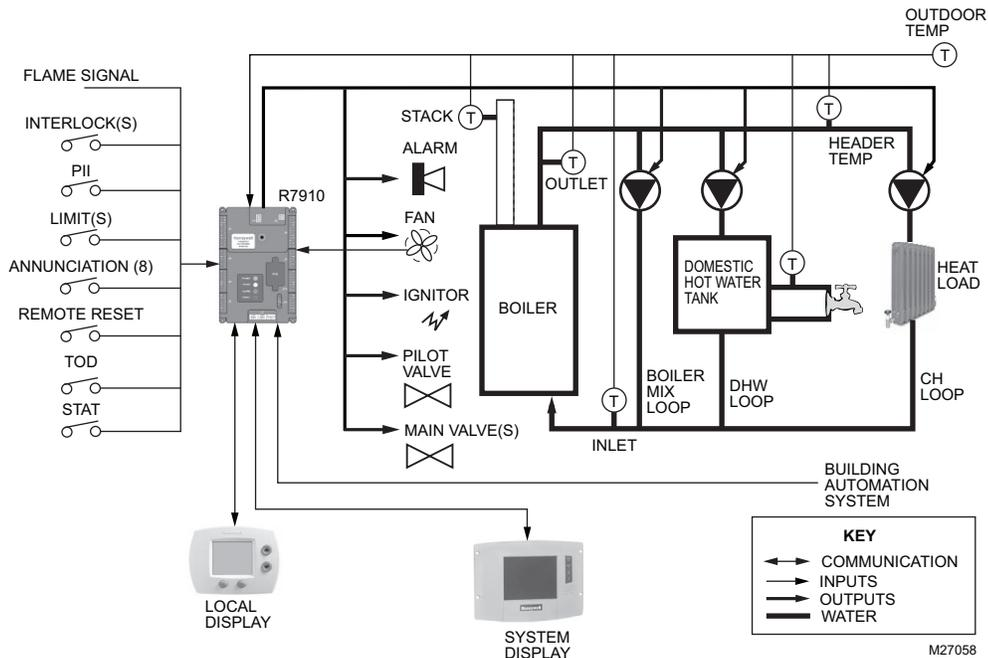

Fig. 1. General R7910 hydronic boiler schematic.
Fig. 1 shows two loops of heat control: Central Heating (CH), and an optional second loop for Domestic Hot Water (DHW) can be configured on each R7910A. The DHW loop transfers heat from the boiler outlet to hot water appliances in conjunction with the primary system heat loop. Priority assignment to each heat loop can be configured to specify which loop gets serviced first.